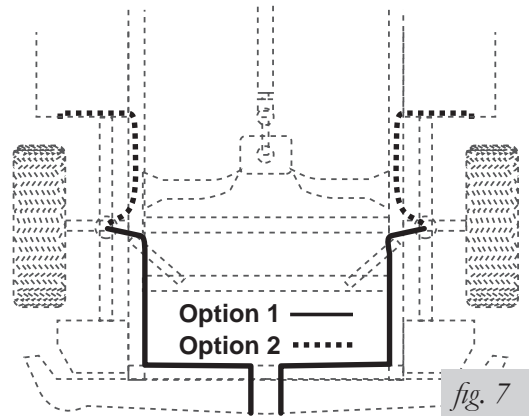

fig. 7
8. Select a location for the inflation valve in the gas cap well, the trunk, rear bumper, fender flange or behind license plate, insuring that the valve will be protected and accessible with an air hose (fig. 7).